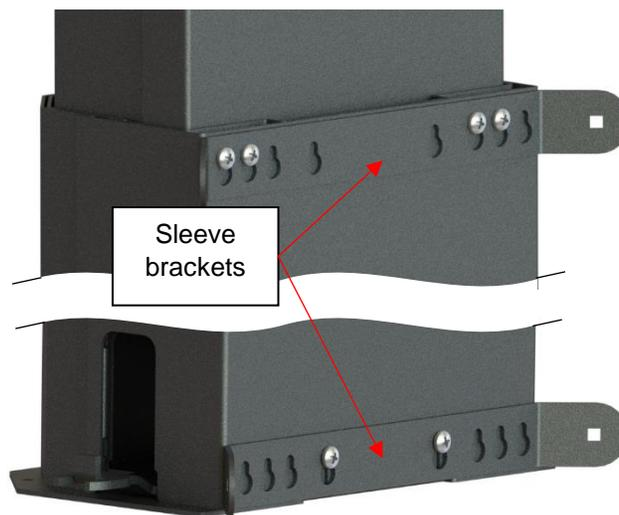

Figure 60
- 4) Tighten all six screws. (Figure 60)